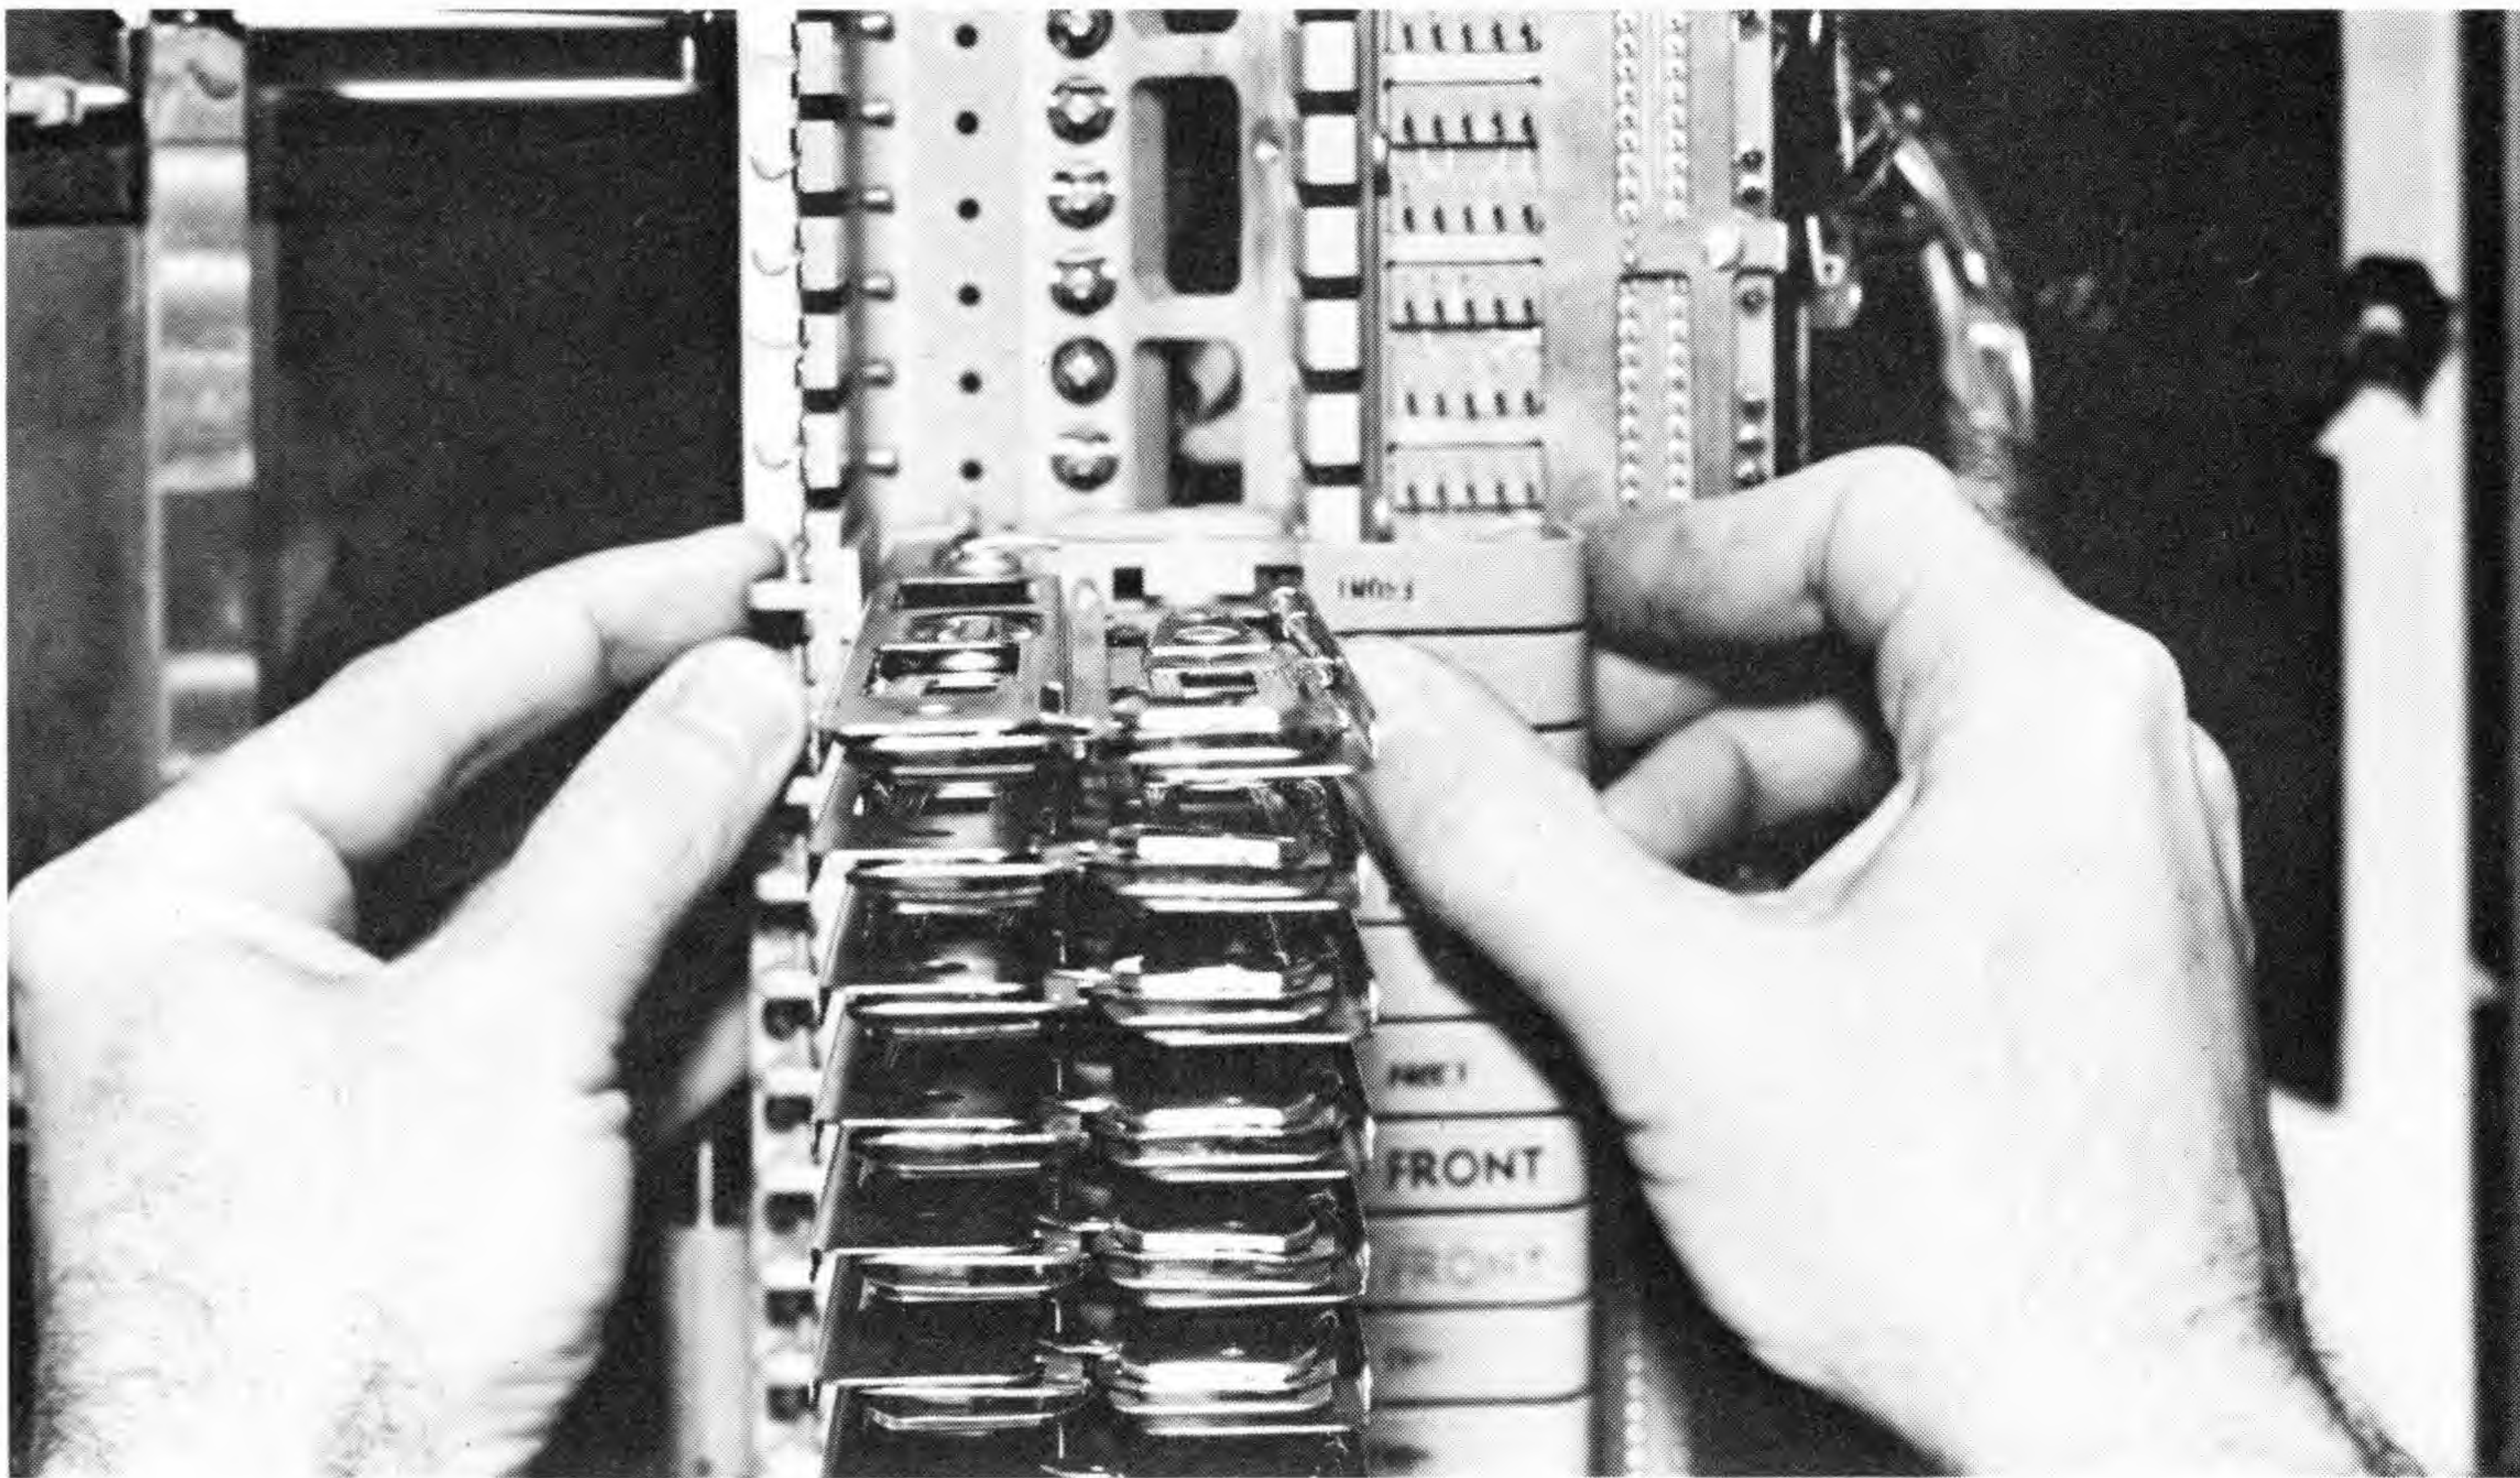

Figure 3-26. Drawer Removal
5. Remove drawer assembly by applying a clamping force with index fingers and pushing on adjacent drawers with thumbs (Figure 3-26). Drawer assembly must be handled with care. Never handle assembly by stiffeners or arms.